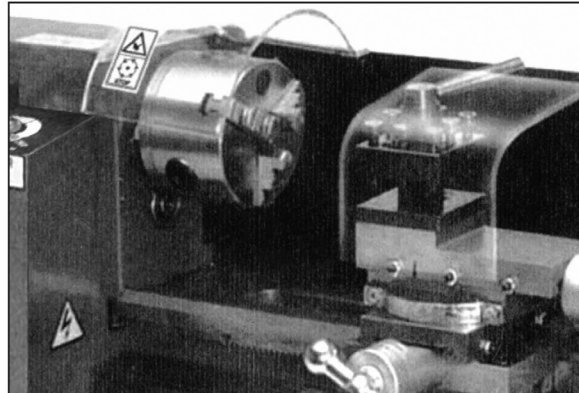

Fig 5
7. Check the Compound Rest Crank and the Cross Feeding Crank to see that they work properly. If the cranks are too tight or too loose, turn the adjusting screws located at both sides (see figure 5 below).